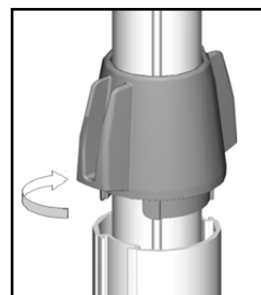

Figure 63
9. Loosen the post (see Figure 63):